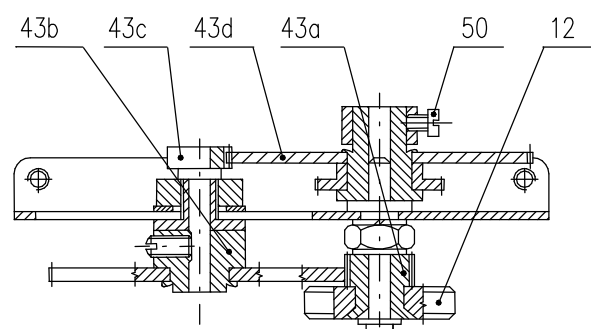

Fig.5
- Transmission unit (fig.5)
Transmitter unit (Fig. 5)